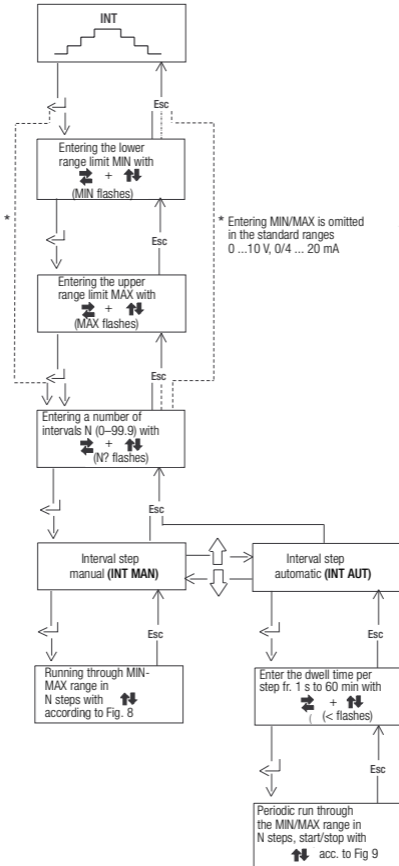

Figure 7 General Operator Control Structure in the Output Method 'Intervals' (INT)
The MIN/MAX limits in Figure 5 have been entered to cover the whole range from -200 to + 1200 °C. The range divisions into 3.2 intervals for connection of an item under test with a scale of 0 ... 6.4 bar, corresponding to a range of 4 ... 20 mA with fixed range limits, is shown in Figure 6. Figure 7 shows the general menu struct. starting with the menu pos. in accordance with Figure 4 in which the output method 'Intervals' (INT) is ready for a selection.
The steps can be triggered with the keys \uparrow (3) and \downarrow (4) after all parameters in accordance with the menu structure in Figure 7 for the output method INT, MAN have been entered.